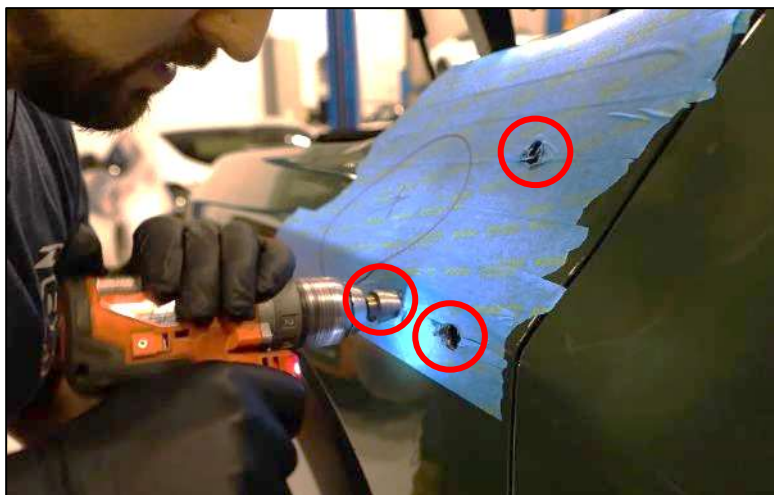

Figure 9
12. Drill out the (3) three smaller holes to 5/8". A step bit is preferred, but if you do not have one, slowly work your way up to the bigger Drill Bits. *Figure 9.*